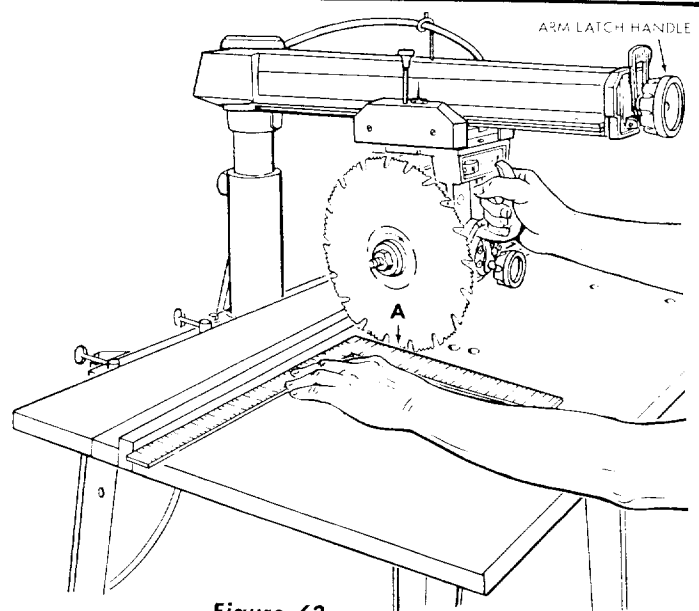

Figure 63
- (3) Rotate the arm latch handle (figure 63) one-quarter turn counterclockwise but do not pull it out.
- (5) Move radial arm slightly in the proper direction to make saw tooth ("A", figure 63) follow edge of square when the saw blade is moved in and out in a "cross-cut" manner.
- (6) Re-tighten the hex-head screws inside radial arm then tighten the arm latch handle (figure 63.)
- (7) Recheck travel of blade tooth ("A") with the square (figure 63), to make sure that tightening the screws did not affect the adjustment.
- (8) After the cross-cut has been accurately squared, install the radial arm cap with two 1/4-20 x 1-3/4-inch screws and 1/4-inch lockwashers. Then, install the radial arm indicator with its attaching screw finger tight.
- (9) Set the radial arm indicator to 0° and tighten the attaching screw securely.